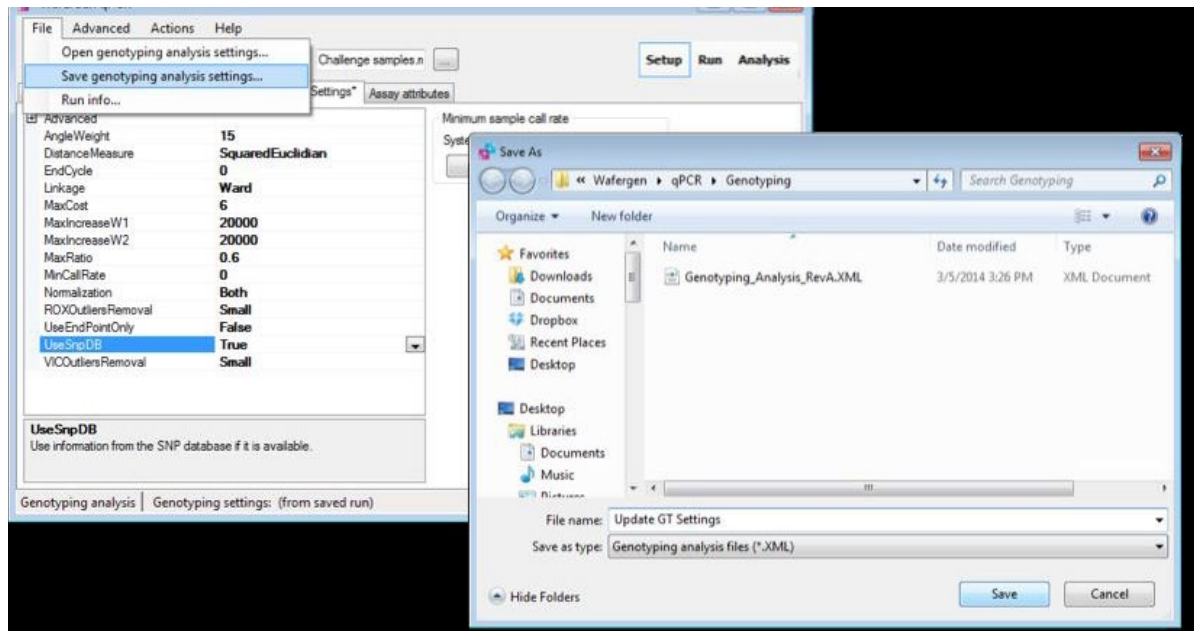

Figure 59. Saving adjusted genotyping analysis settings.
- c. Save your adjusted genotyping settings: From the **File** drop-down menu, select **Save genotyping analysis settings**. In the window that opens (Figure 59), choose a logical name and file location for the settings and click [Save].